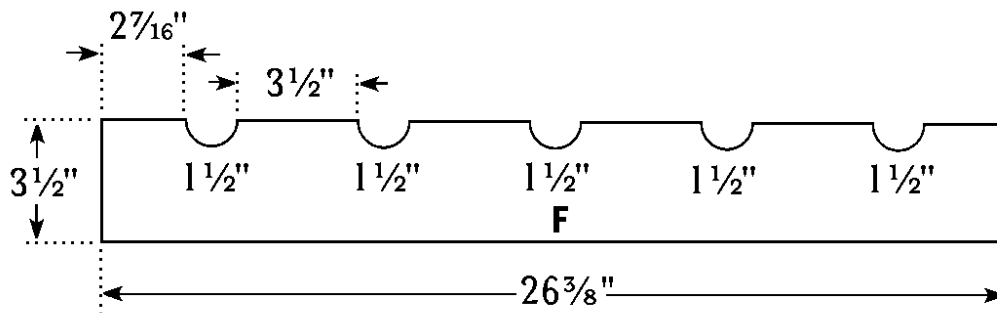

Figure 4
- Referring to *Figure 4*, mark and cut the semi-circular cuts that will hold the tops of the wine bottles. Apply glue to the meeting surfaces, and attach one of the Horizontal Wine Trims